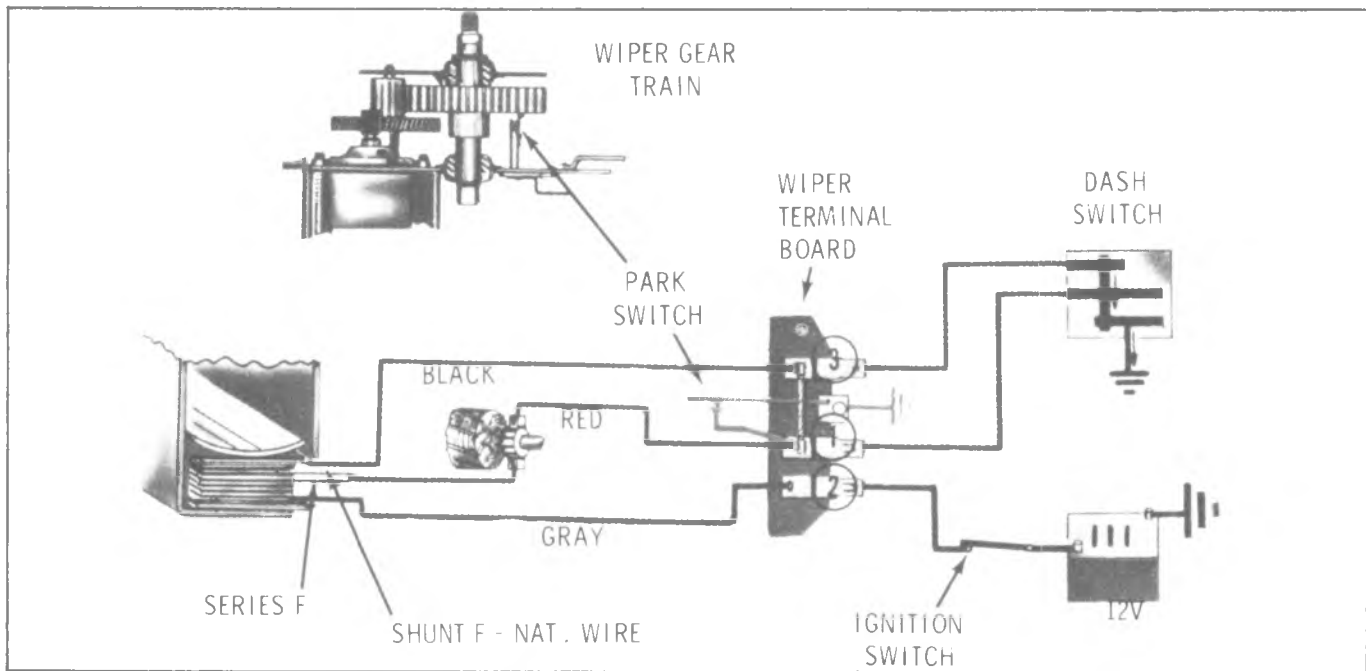

Fig. 8-37--LO Speed Circuit
terminal No. 2 through the series field and divides; (1) part passes through the armature to ground via wiper terminal No. 1 to the wiper switch and (2) the second part passes through the shunt field to ground through wiper terminal No. 3 to the wiper switch (fig. 8-37).